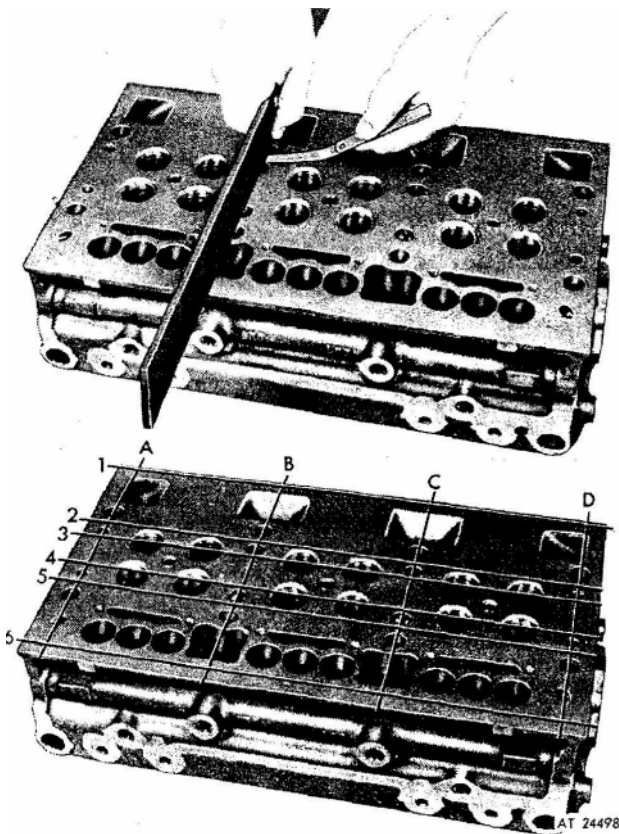

Figure 3. Checking bottom face of cylinder head for warpage.
2. Use an accurate straight-edge and feeler gage J 3172 to check for transverse warpage at each end and between all cylinders. Also, check for longitudinal warpage in six places, as shown in figure 3. Maximum allowable warpage is given in the following table: